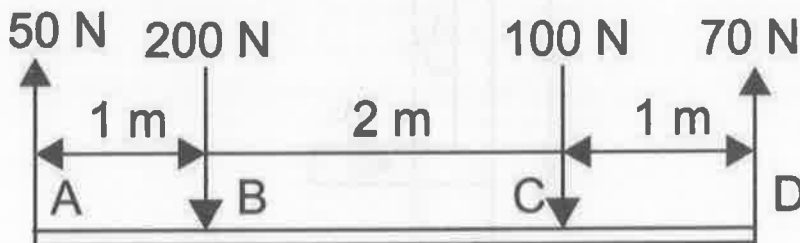

Fig 5
12. (a) A system of parallel non-concurrent forces is acting on a rigid bar AB as shown in fig 5. Reduce this system of forces to